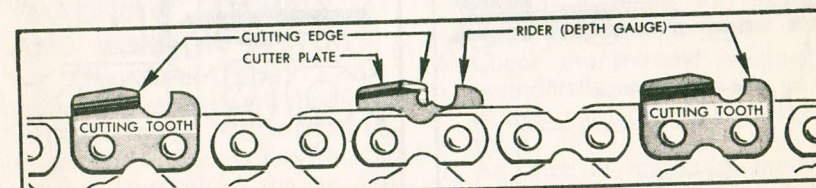

Figure No. 8
4. Look carefully at the chain illustration (Figure No. 8) and you will notice that the cutting teeth are not